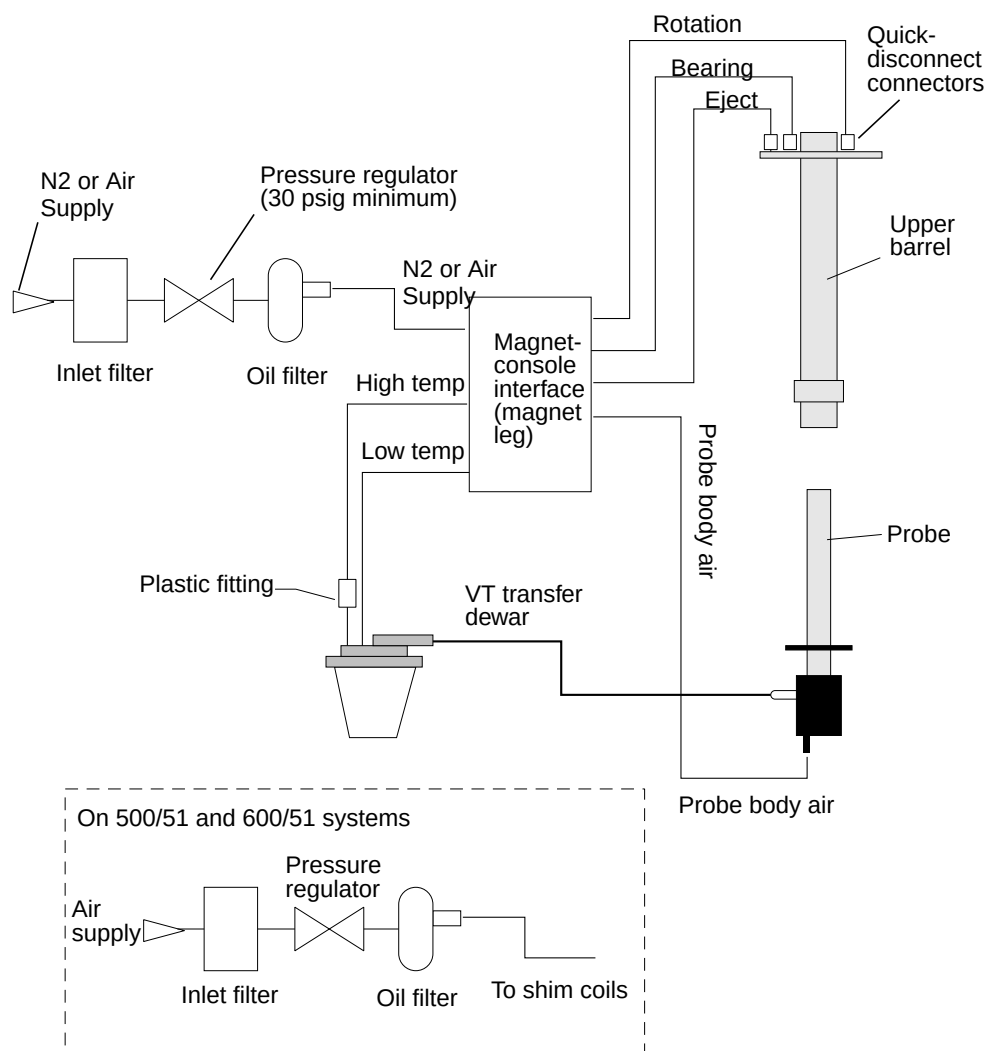

Figure 3. Pneumatic System Connection Diagram
1. Connect the COOLING Tygon tube to the probe (see Figure 3). Use the cooling air meter, located inside the right-hand leg of the Varian magnet and on the preamplifier housing of the Oxford magnet, to maintain a flow rate of about 10 liters/minute.